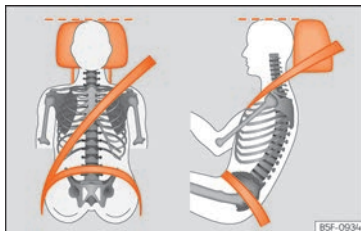

Fig. 74 Correctly adjusted head restraint as viewed from the front and the side.
- Adjust the head restraint so that its upper edge is, as far as possible, at the same level as the top of your head, or at the very least, at eye level »» **Fig. 74**.